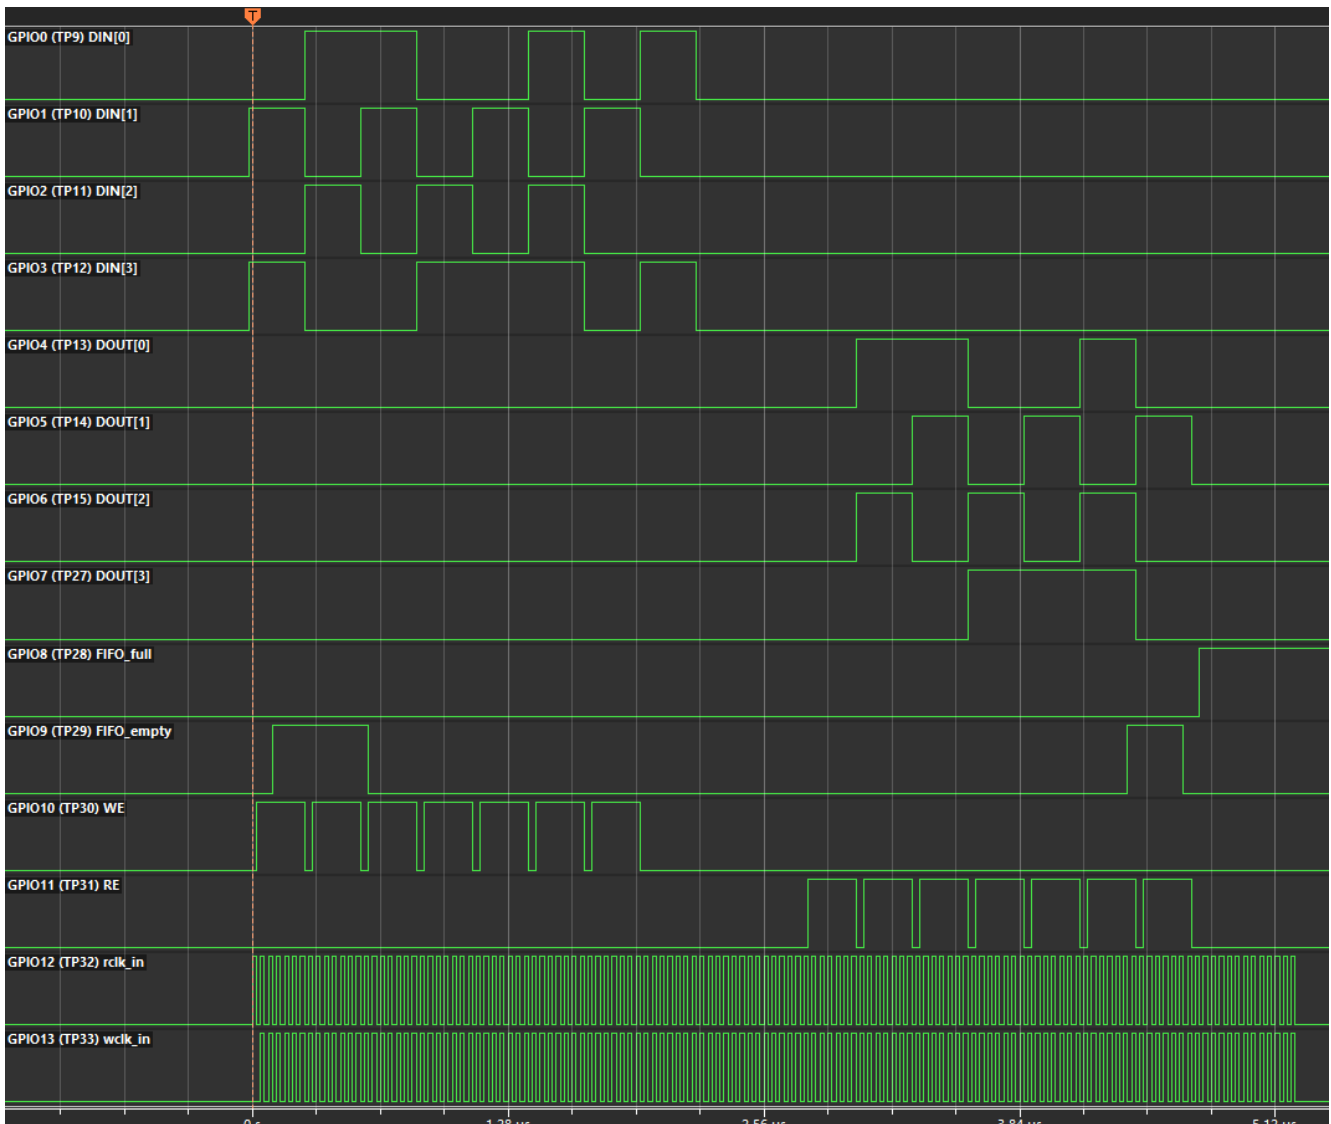

Figure 8: Output on Logic Analyzer
11. Apply the desired inputs from GPIO[0-3] and observed the DOUT through GPIO[4-7]. GPIO8 will indicate if the FIFO is full and GPIO9 will indicate if the FIFO pipeline is empty. The user can observe waveforms through the inbuilt Logic Analyzer (Figure 8), or the user can connect the desired GPIOs to an oscilloscope to observe the waveforms.